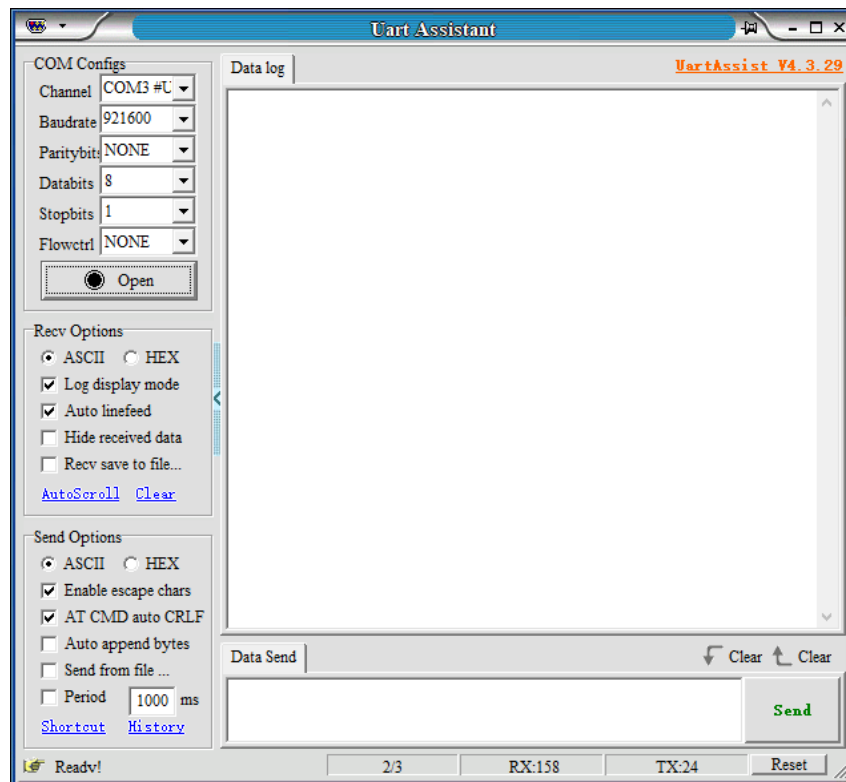

Figure 107. UartAssist Software Interface
3. Open the Uart_Assistant folder on the USB flash drive and double-click UartAssist.exe. The software interface appears as shown in Figure 107.